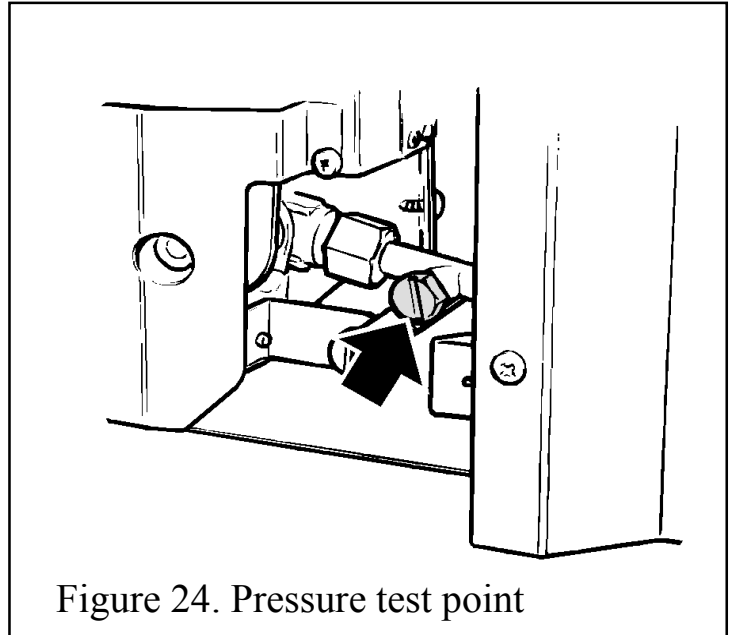

Figure 24. Pressure test point
1. Check the burner pressure by fitting a pressure gauge at the test point. The test point is on the pipe situated below the bottom right corner of the burner unit. See figure 24. Check the pressure with the appliance alight and set at maximum output.